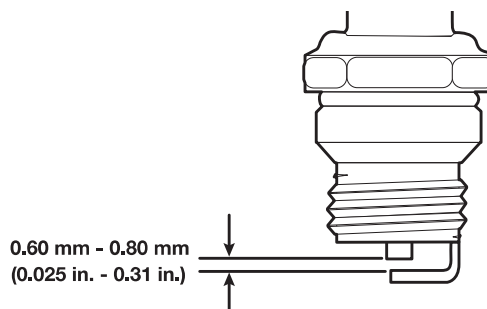

Fig. 27
4. Use a feeler gauge to set the air gap at 0.6 mm - 0.8 mm (0.025 in. - 0.31 in.) (Fig. 27).